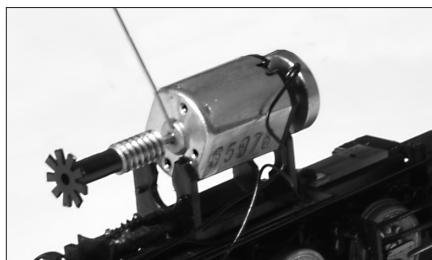

Figure 18 - Lubricate bearings.
3. Place a *small* drop of lubricant on the front and rear motor shafts where they protrude from the bearing as shown in Figure 18.